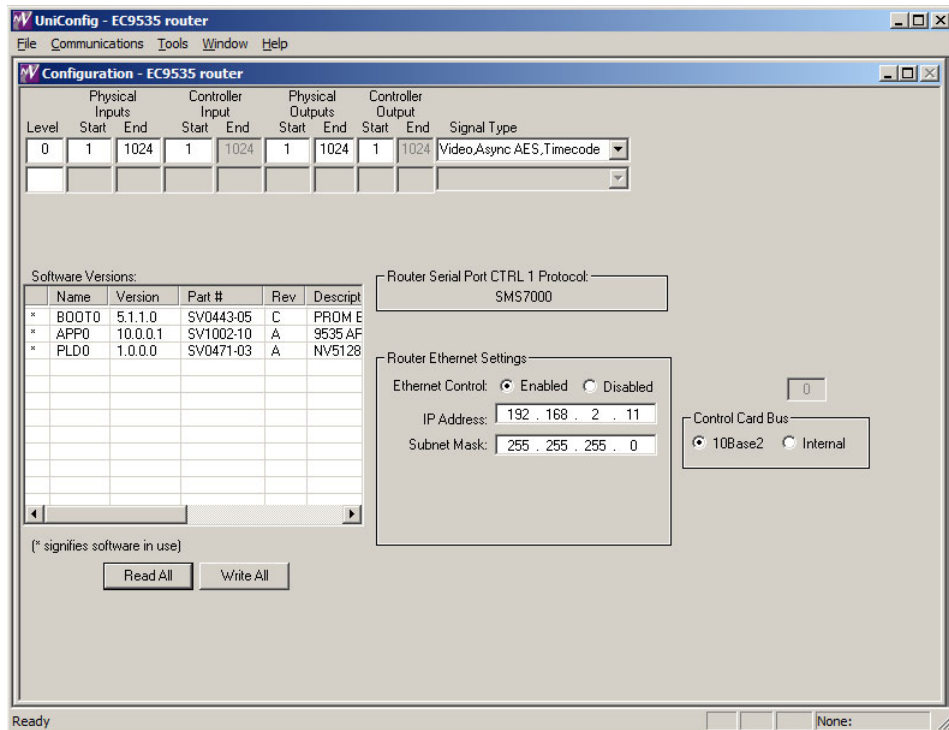

Figure 12-5. Configuration Window
- 4 From the menu bar, select 'Window > Configuration'. The 'Configuration' window appears, as shown in Figure 12-5. Using this window, Ethernet connection settings are entered (i.e., IP address and subnet) to enable communication with the EC9535 through a network.